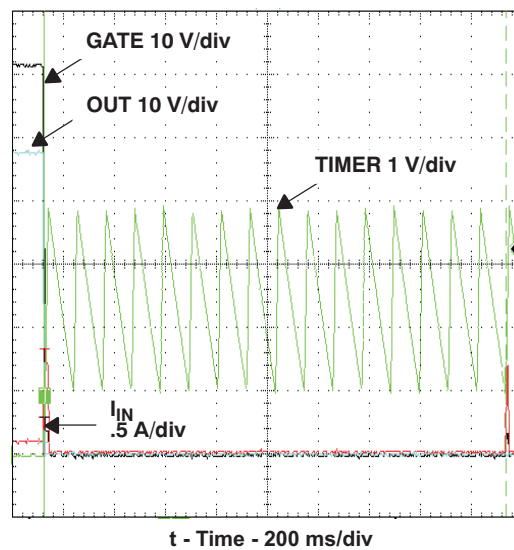

Figure 17. TPS2491 Restart Cycle Timing
The typical application circuit, and oscilloscope plots of Figure 13 through Figure 17 demonstrate many of the functions described Device Functional Modes.
7.4.5 Automatic Restart (Figure 17)